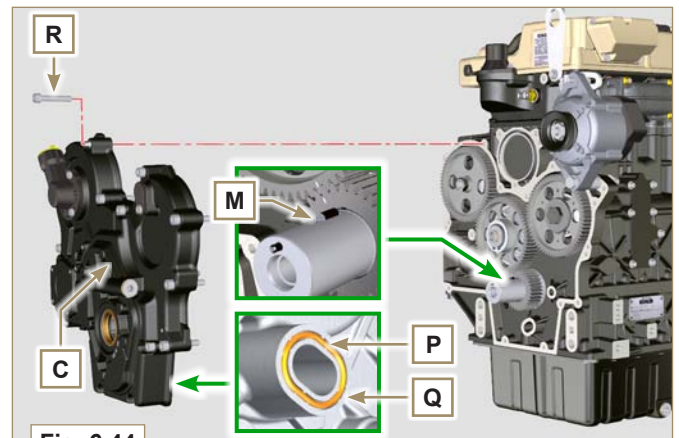

Fig. 6.44
- 3 - Make sure that the key **M** (Fig. 6.44) is inserted properly on the crankshaft and that it is facing upwards.